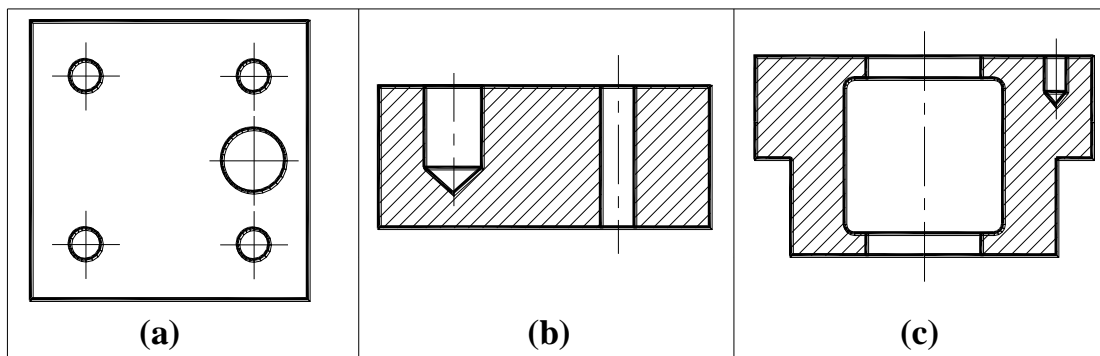

FIGURE T4.3
3. 3. MEASURE AND DIMENSION PROPERLY AS PER DIMENSIONING RULES FOR HOLES GIVEN IN *FIGURE T4.3 (A)* TO *FIGURE T4.3(C)*.